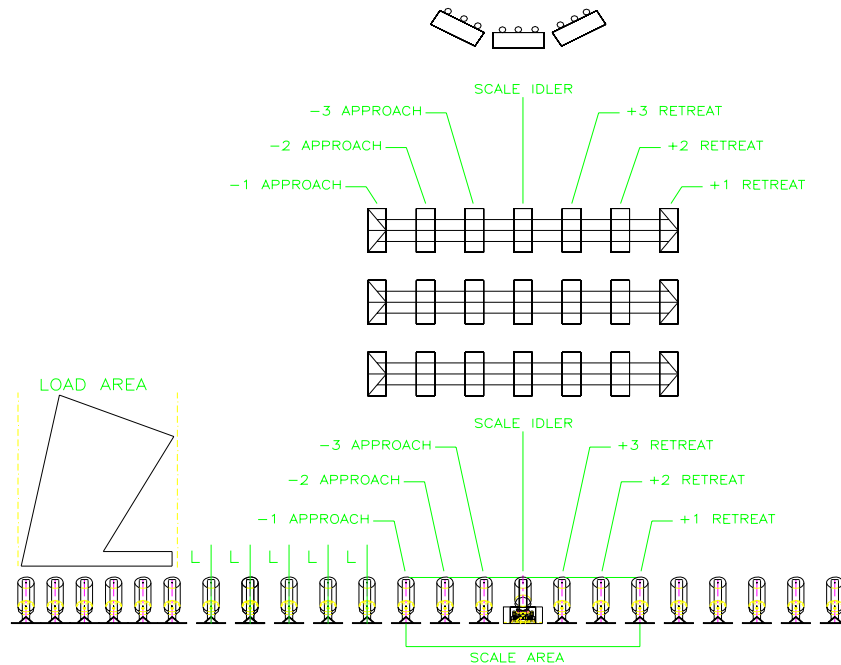

Figure 2
Installation: (See Figure 2)
- 10) Tie four lines (a piano wire or equivalent) to the base of the minus three approach idler; one line running across the center marks of each wing roll and two lines evenly spaced and running across the center roll. Each line should then be tied tightly to the base of the plus three retreat idler. (Note: On scale systems over 54 inches, an additional string line should be placed on each wing roll for a total of 6 lines.) Refer to figure 2.